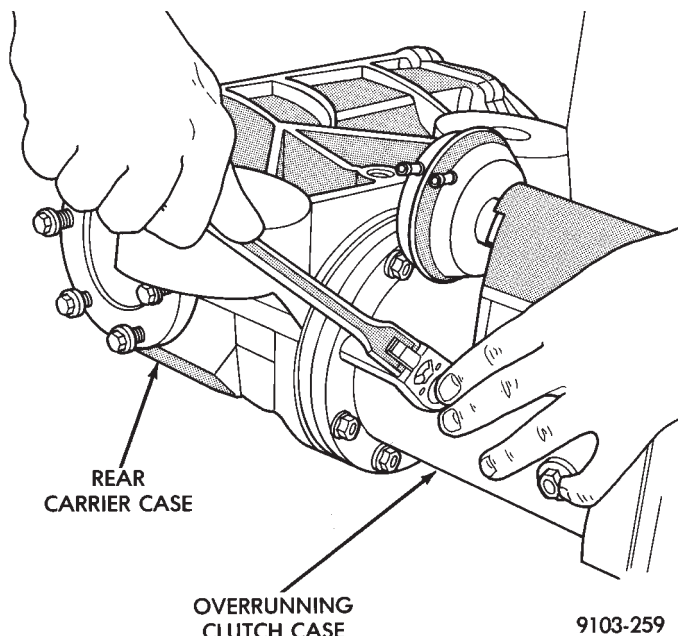

Fig. 1 Overrunning Clutch Case to Rear Carrier Bolts
The rear drive line module must be removed to service these seals. The drive pinion seal is located in the front carrier cover, behind the overrunning clutch rear seal (Fig. 1). The overrunning clutch seal must be removed to gain access to the drive pinion seal. Do not reuse overrunning clutch seal.
- (1) Remove rear drive line module from vehicle.
- (2) Remove overrunning clutch case to rear carrier bolts (Fig. 1).